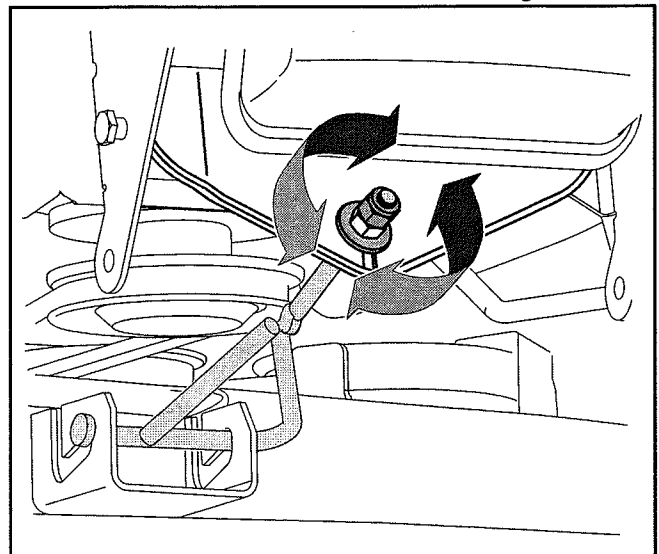

Figure 13
5. From the front of the tractor, loosen the outermost hex lock nut on the end of the deck hanger rod. See Figure 13.
6. Tighten the inner hex nut against the front hanger bracket to raise the front of the deck; loosen the hex nut to lower the front of the deck. See Figure 13.